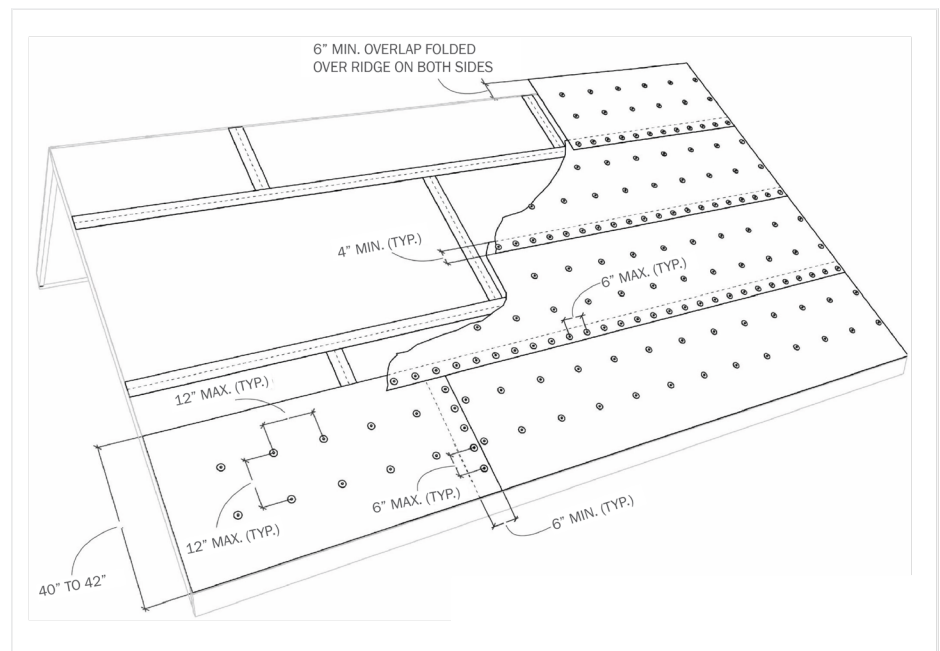

FIGURE 2 – Cap nail placement for F-SRD-2 sealed roof deck installation using 40 – 42-inch rolls.
- An additional row of button caps must be added for each 1-foot increase in roll width. Refer to Figures 2, 3 and 4 for additional guidance.
For F-SRD-2 sealed roof deck installations using 40-in to 42-inch underlayment rolls, the required cap nail spacing is shown in Figure 2. Note that two rows of cap nails are required between end laps.